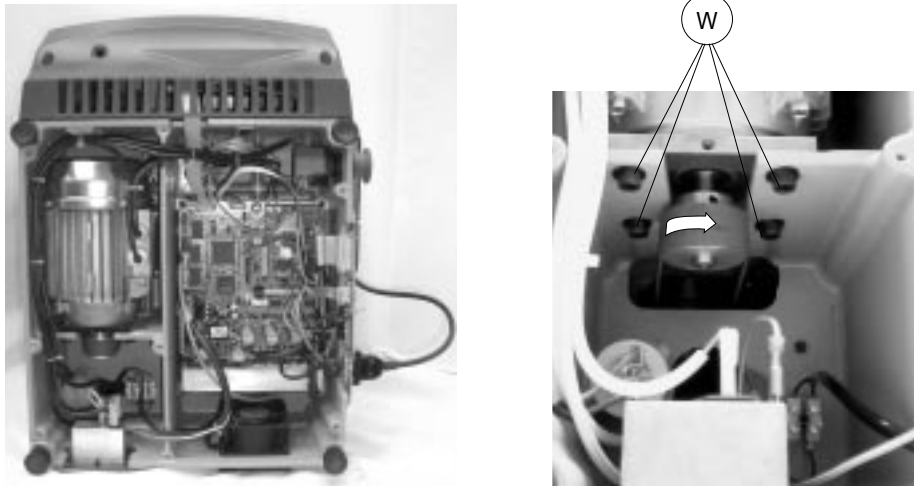

Fig. 20
- 3) loosen the 4 motor locking screws (W) (fig. 20) and remove the belt.